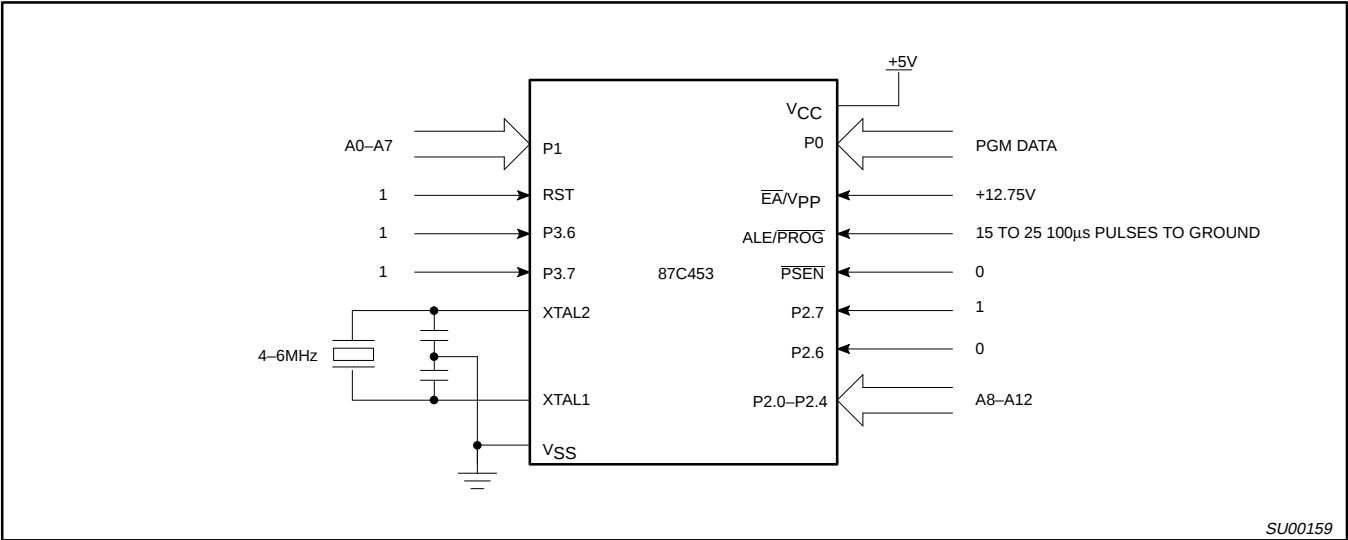
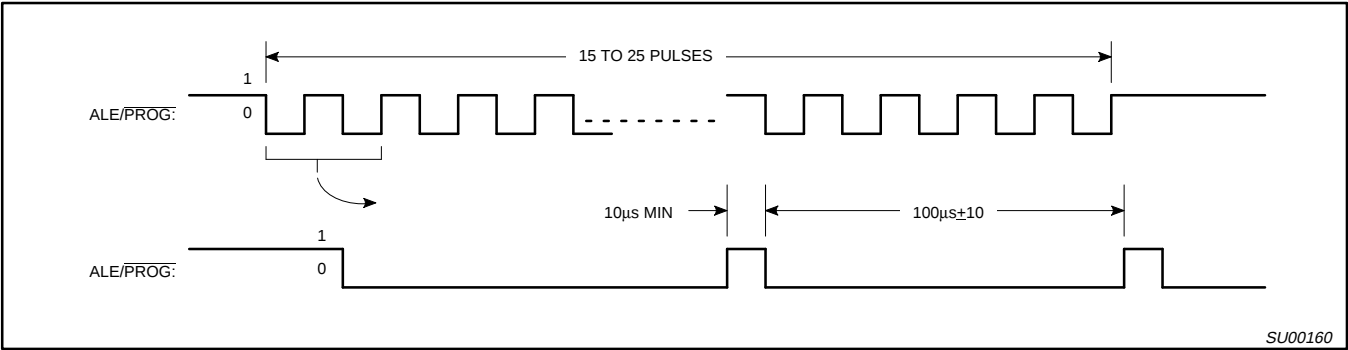
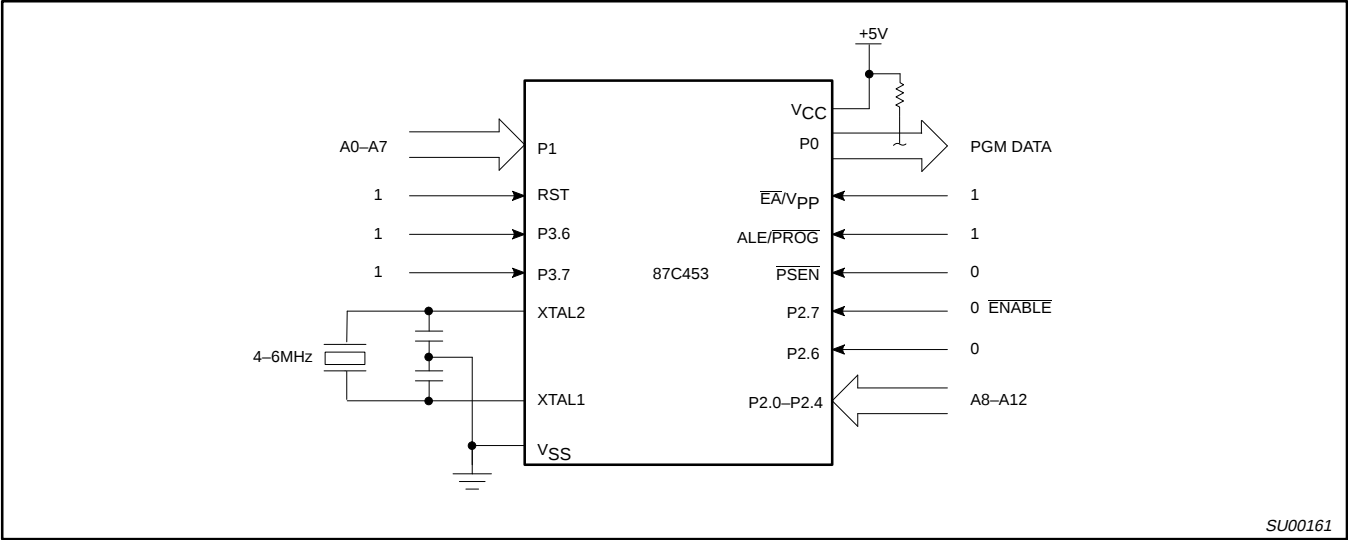

Figure 25. Programming Configuration
Figure 26. PROG Waveform
Figure 27. Program Verification
Table 4 shows the logic levels for reading the signature byte, and for programming the program memory, the encryption table, and the lock bits. The circuit configuration and waveforms for quick-pulse programming are shown in Figures 25 and 26. Figure 27 shows the circuit configuration for normal program memory verification.
The setup for microcontroller quick-pulse programming is shown in Figure 26. Note that the 87C453 is running with a 4 to 6MHz oscillator. The reason the oscillator needs to be running is that the device is executing internal address and program data transfers.
The address of the EPROM location to be programmed is applied to ports 1 and 2, as shown in Figure 25. The code byte to be programmed into that location is applied to port 0. RST, $\overline{PSEN}$ and pins of ports 2 and 3 specified in Table 4 are held at the 'Program Code Data' levels indicated in Table 4. The ALE/PROG is pulsed low 15 to 25 times, as shown in Figure 26.
If lock bit 2 has not been programmed, the on-chip program memory can be read out for program verification. The address of the program memory locations to be read is applied to ports 1 and 2 as shown in Figure 27. The other pins are held at the 'Verify Code Data' levels indicated in Table 4. The contents of the address location will be emitted on port 0. External pull-ups are required on port 0 for this operation.
* FOR PROGRAMMING VERIFICATION SEE FIGURE 25.
FOR VERIFICATION CONDITIONS SEE FIGURE 27.